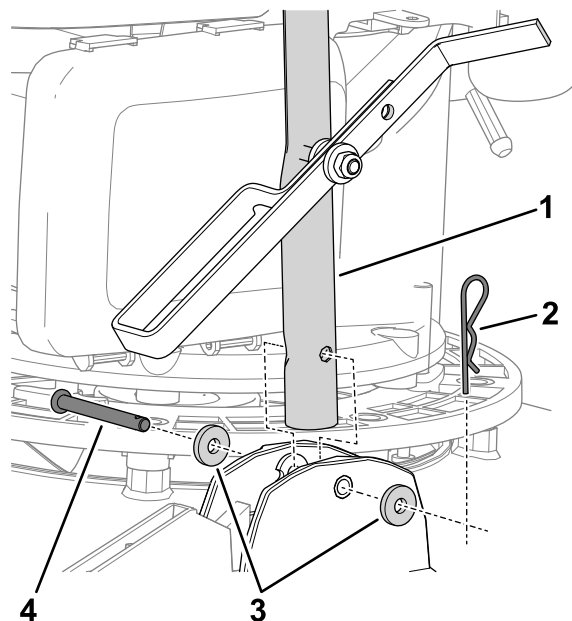

Figure 7
3. Align the hole in the handlebar with the holes in the bushings (Figure 7), and secure the handlebar to the machine with a cotter pin, 2 washers (6 mm), and a hairpin cotter.